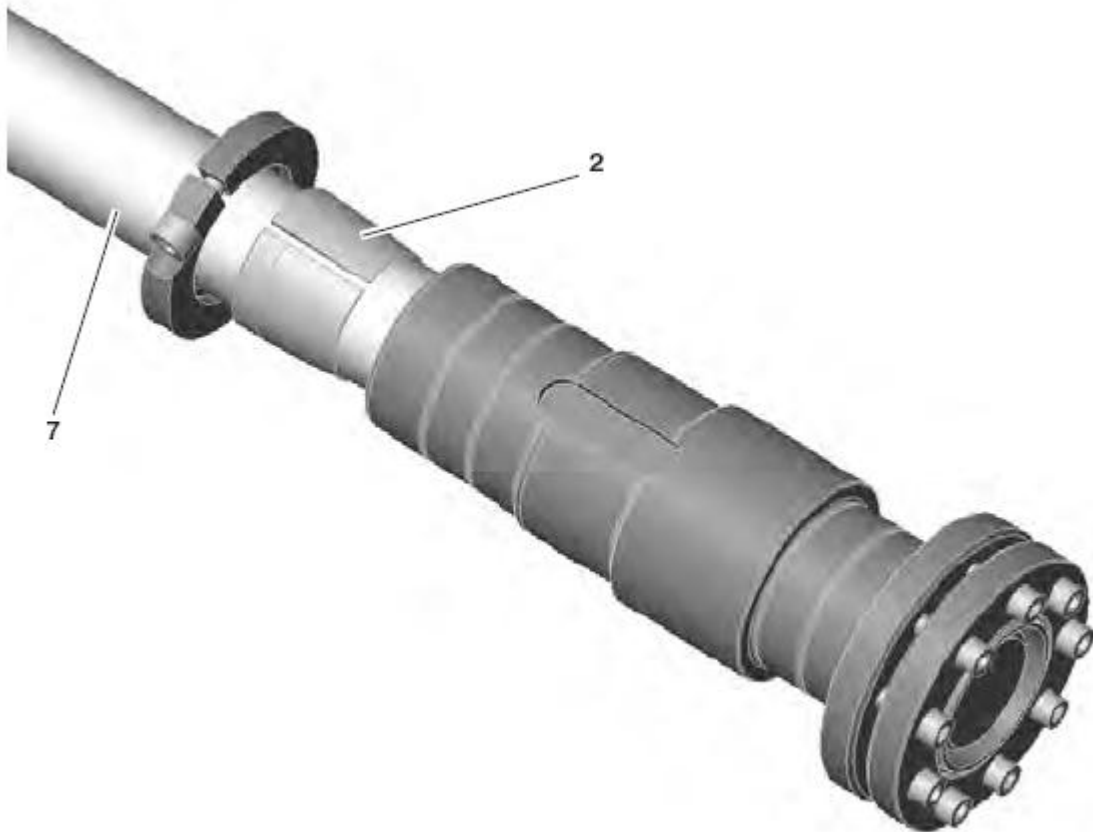

Figure 4-19. Positioning the Support Bushing
Refer to figure 4-19. Position the support bushing (2) on the machine shaft (7).